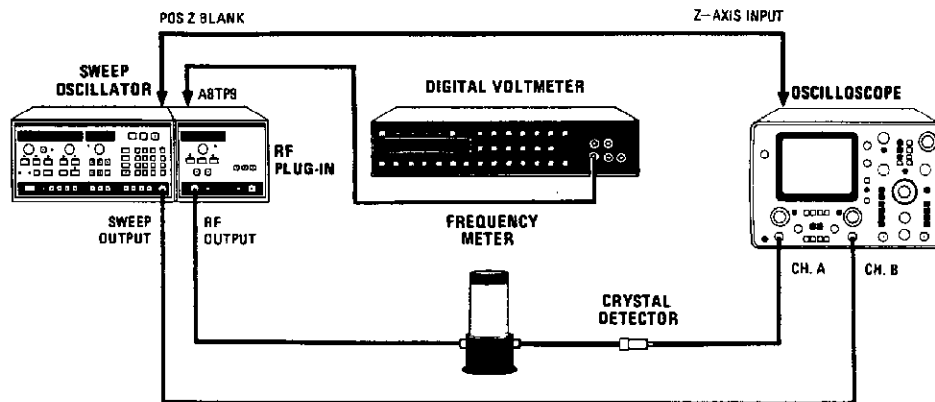

Figure 5-15. YO Delay Compensation Test Setup
1. Connect the equipment as shown in Figure 5-15, using the HP 537A Frequency Meter. On the Model 8350A/B, press **[INSTR PRESET]** and allow the equipment to warm up for one hour.
6. Adjust A8R18 (Z) for a DVM reading equal to the voltage noted in step 4. Remove the DVM test leads.